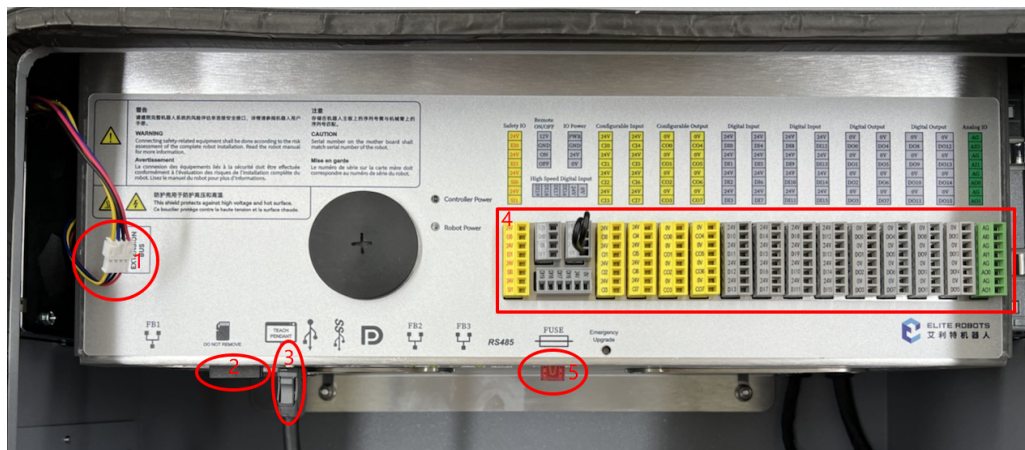

Figure 3-32 : Wiring, patch cords, cards and fuses and IO plugs
11. Plug in the cable of the fan, plug in the teach pendant cable, plug in the flash memory card, fuse and IO plug, as shown in **Figure 3-32** :